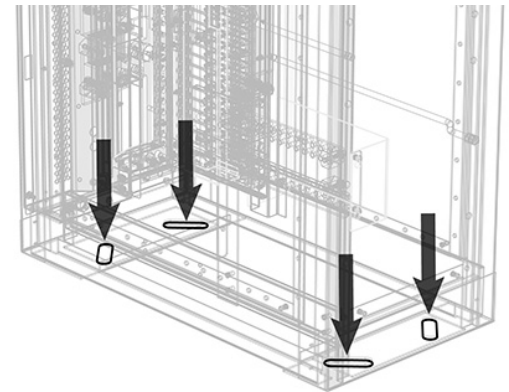

Figure 3. Anchoring Rack
- Step 4. Insert and securely fasten all (4) Hilti anchor bolts into the anchors (see Figure 3).